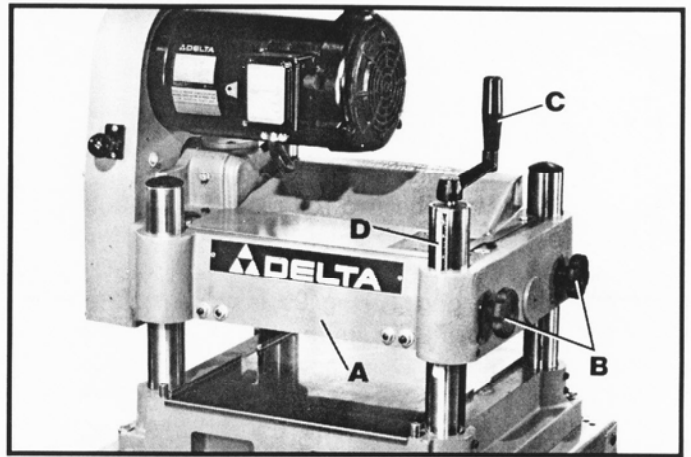

Fig. 24
The head assembly (A) Fig. 24, contains the cutterhead, feed rolls and chipbreaker. Raising and lowering the head assembly (A) controls the depth of cut on your planer. To raise or lower the head assembly simply loosen the two head locking knobs (B) and turn the raising and lowering handle (C). After the desired depth of cut is obtained, tighten lock knobs (B). A combination english/metric scale (D) is conveniently located on the right front column for easy reading.